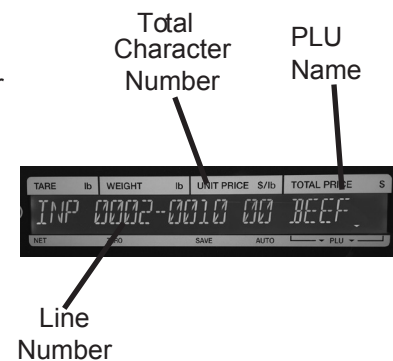

Figure 10-3
10. Enter the first line of data. If you only want one line of data, then press the Enter key. If you want a second line of data, press the New Line key. Enter the second line of data, and press the Enter key to complete. See Figure 10-3. Display will show: P01-01 <SALE1>